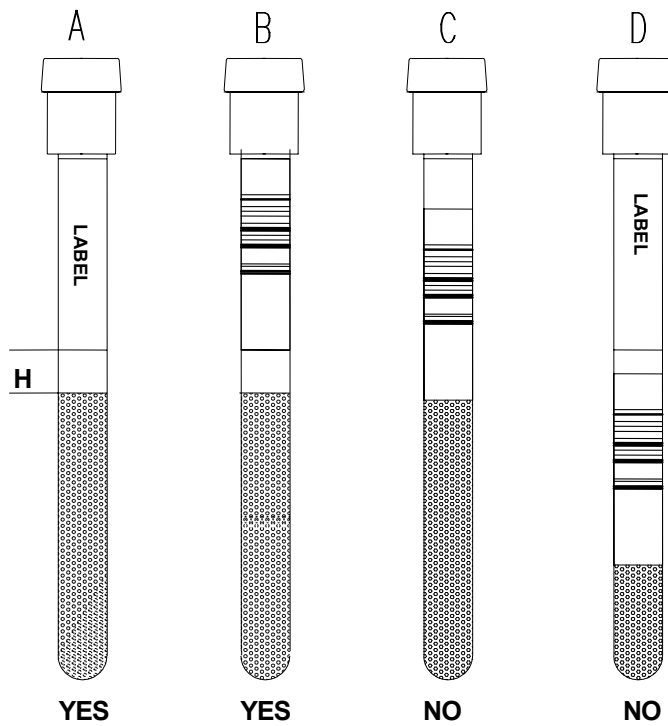

Figure 3
Identify the sample by writing on the original test tube label or by applying a coded label. Follow the scheme of Figure 3 to carry out this action correctly. In the figure the test tube marked A has the correct blood level and original label on which to write the patient code or any other relevant data in the absence of a bar code. The part marked H shows the transparent zone that absolutely must be left free to allow the infrared rays to recognize the end of the blood column. The next test –tube (B) shows the correct position for the label. Test tubes C and D illustrate how incorrect application of the label obstructs the reading of the analysis.